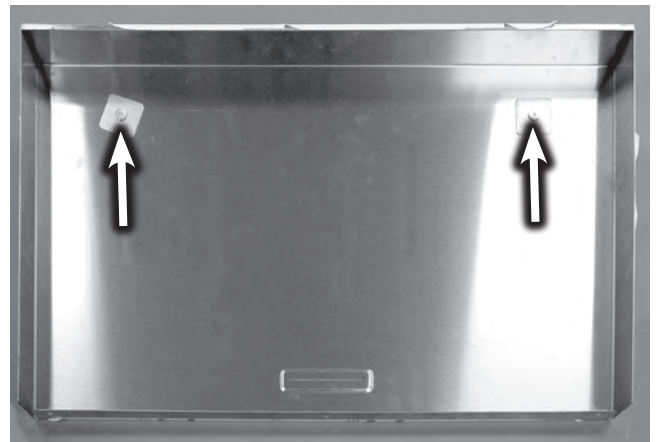

Figure 3
2. Remove the two screws securing the handle to the drawer front, see figure 3.